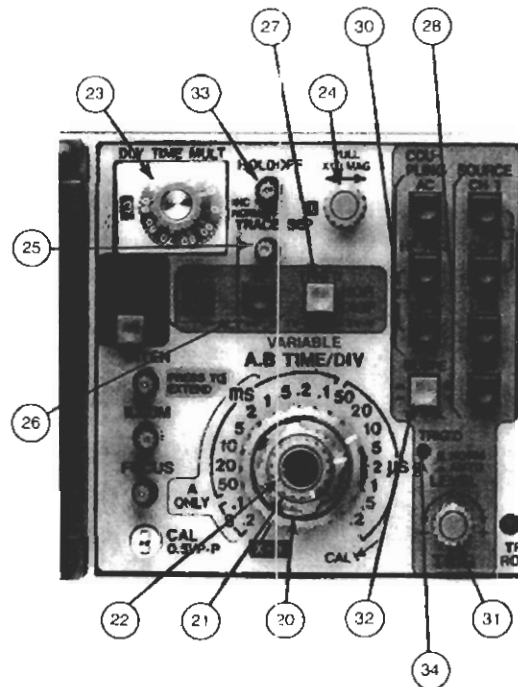
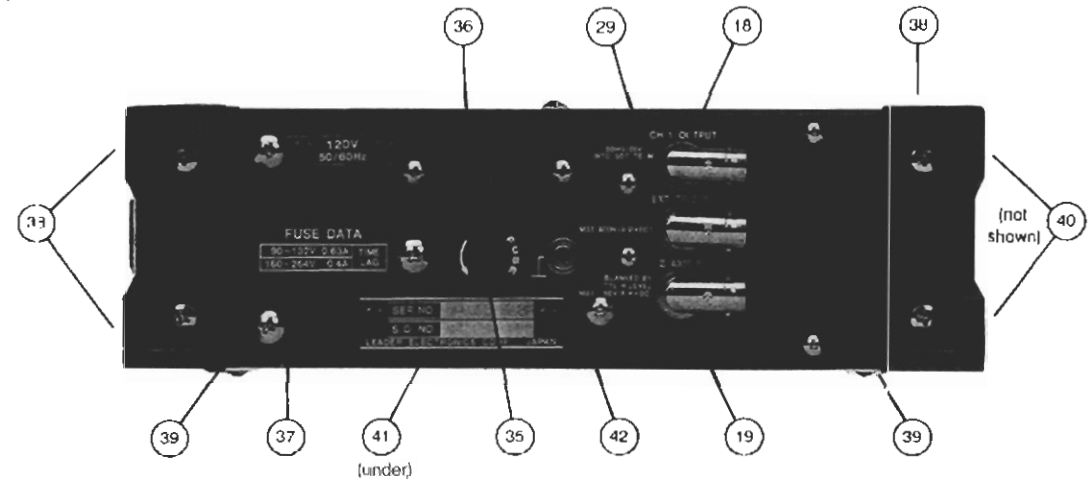

Figure 2-3. Sweep and trigger block
Figure 2-4. Rear panel and case features
Refer to Figure 2-2 for references (9) to (17), and Figure 2-4 for reference (18).
- (9) CH 1 or X IN connector For applying an input signal to vertical-amplifier channel 1, or the X-axis (horizontal) amplifier during X-Y operation.
- (10) CH 2 or Y IN connector For applying an input signal to vertical-amplifier channel 2, or the Y-axis (vertical) amplifier during X-Y operation.
- (11) VOLTS/DIV switches To select the calibrated deflection factor of the input signals fed to the vertical amplifiers.
- (12) VARIABLE controls Provide continuously-variable adjustment of deflection factor between steps of the VOLTS/DIV switches. VOLTS/DIV calibrations are accurate only when the VARIABLE controls are click-stopped in their fully clockwise position.
Refer to Figure 2-3 for references (20) to (28) and (30) to (34), and to Figure 2-4 for reference (29).
- (20) A TIME/DIV switch To select either the calibrated sweep rate of the main (A) timebase, the delay time range for delayed-sweep operation, or X-Y operation.
- (21) B TIME/DIV switch To select the calibrated sweep rate of the delayed (B) timebase.
- (22) Time VARIABLE control Provides continuously-variable adjustment of sweep rate between steps of the A TIME/DIV switch. TIME/DIV calibrations are accurate only when the Time VARIABLE control is click-stopped fully clockwise.
- (23) DLY TIME MULT control To determine the exact starting point within the A timebase delay range at which the B timebase will begin sweeping. The absolute delay time is equal to the sweep time rate (A TIME/DIV) multiplied by the DLY TIME MULT setting.
- (24) Horizontal or X Position control To adjust the horizontal position of the traces displayed on the CRT. Clockwise rotation moves the trace(s) to the right. During X-Y operation, this control must be used for X-axis positioning.
Refer to Figure 2-4 for references (35) to (42) and (19).